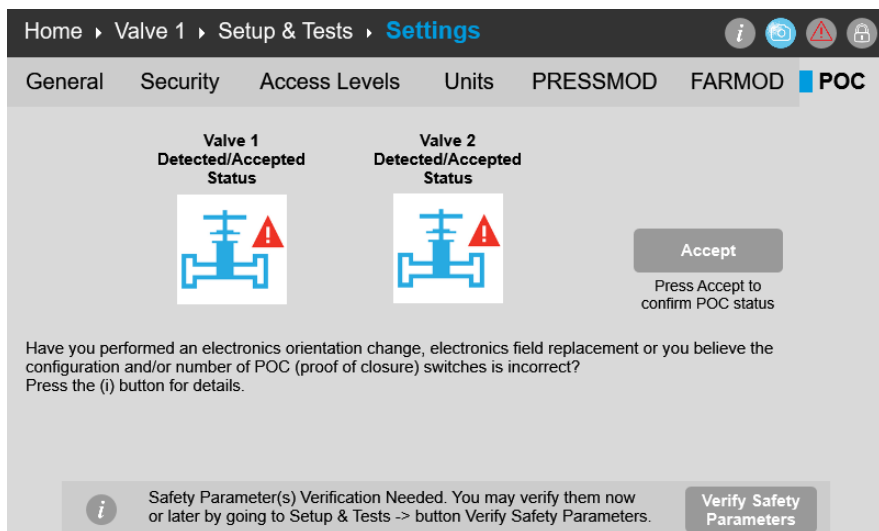

Fig. 140: Proof of Closure Switch tab.
- a. Accept the Proof of Closure Switch(es) (POCs) configuration. Refer to Fig. 140.